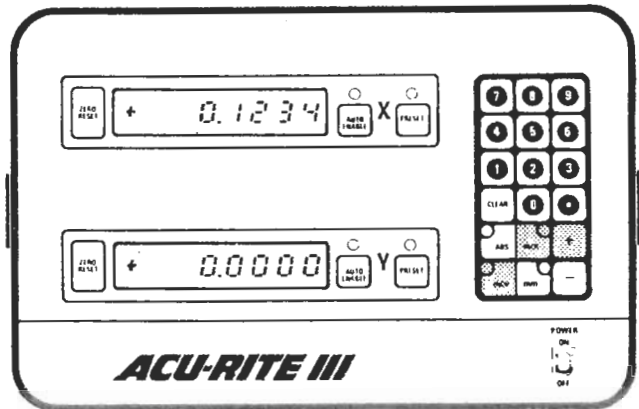

Figure 3-11. Console Status: Preset Entry, Incremental Mode
- f. To preset the incremental mode to the above value, push the plus or minus key, depending on whether the preset value is to be positive or negative (see Figure 3-11). The PRESET light will go out and the display will now indicate the preset machine coordinates.